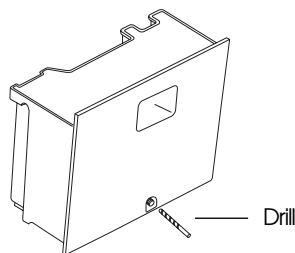

fig. 2
2. Using a 5 mm drill bit, (0.2 inches) drill a hole in the base of the tank along the torus as shown in figure 2.